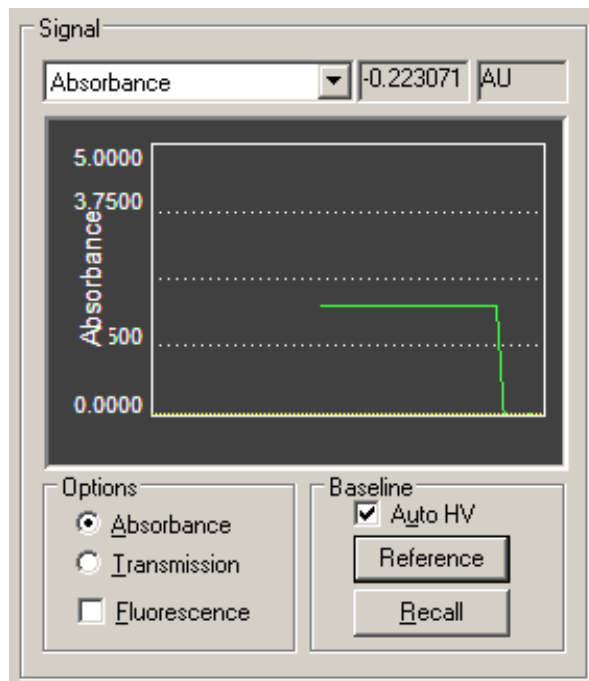

Figure 3.8 - Live trace display window
- Turn the key clockwise and simultaneously monitor the live data display (Figure 3.8).